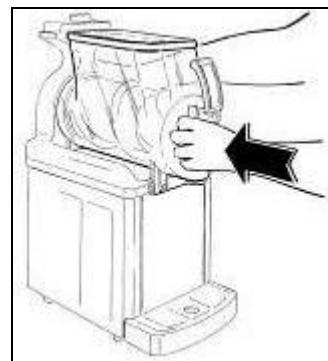

Fig. 24
- Reassemble the bowl by positioning it back into its seat, verifying that it faces in the correct direction and it is held in place by its seal (see fig.24).